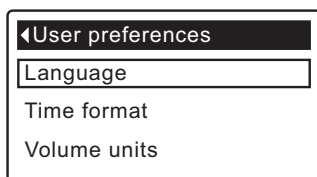

FIG. 46
3. Press the SELECT (O) button to display the User preferences menu (See Figure 46).
7. Press the SELECT (O) button. The display will go back to the User preferences menu (Figure 46).